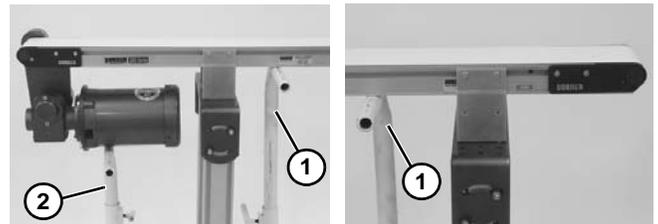

Figure 69
1. Ensure temporary support stands (**Figure 69, item 1**) are placed at both ends of the conveyor. Place an additional support stand under the drive motor (**Figure 69, item 2**), if equipped. See WARNING.